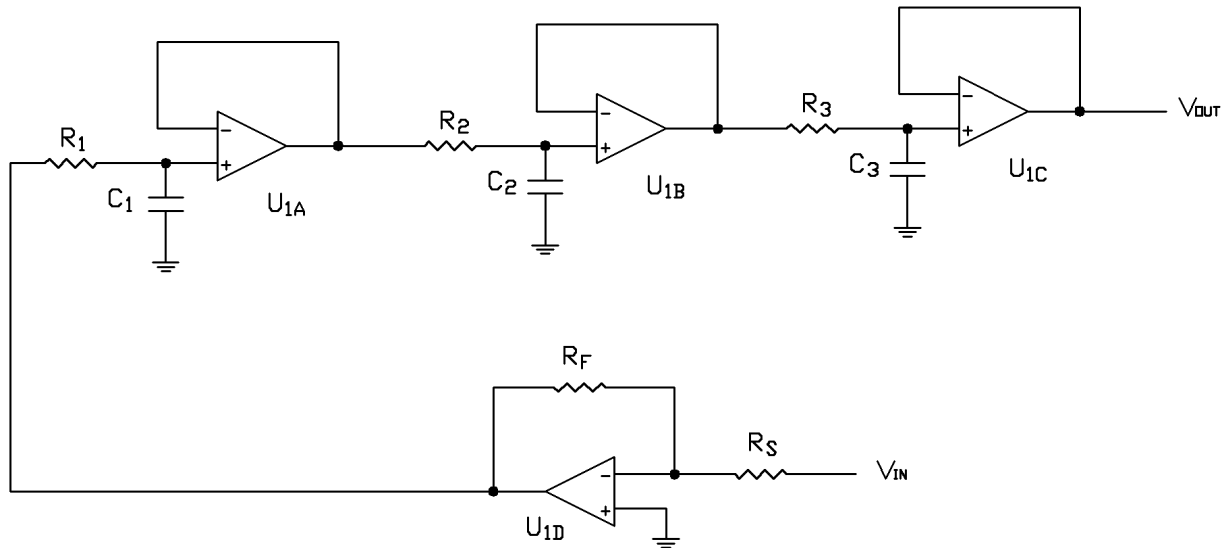

Figure 1 RC Oscillator
In Figure 1 given that $R_1=R_2=R_3=10\text{K}$, $R_F=2\text{K}$, $R_S=1\text{K}$, $C_1=C_2=C_3=0.01\mu\text{F}$, and U1 is an LT1014 op amp (or, use four 741 op-amps), calculate the gain and phase shift, $V_{\text{OUT}}/V_{\text{IN}}/\phi$. Draw a Bode plot from 100 Hz to 10 kHz. From your design equations and Bode plot, determine if this circuit will oscillate if V_{OUT} were connected to V_{IN} . If you decide that the circuit will oscillate, determine the frequency of oscillation. If you decide that the circuit will not oscillate, determine what has to change to make it oscillate. Simulate this circuit using LTSpice or PSpice.
10.2 Lab Procedure: Build the circuit shown in Figure 1 and measure the open loop gain, $V_{\text{OUT}}/V_{\text{IN}}$ and compare it to your design equations and the simulation. Do a frequency sweep to determine the phase margin and the gain margin (which will be negative if the circuit will oscillate).